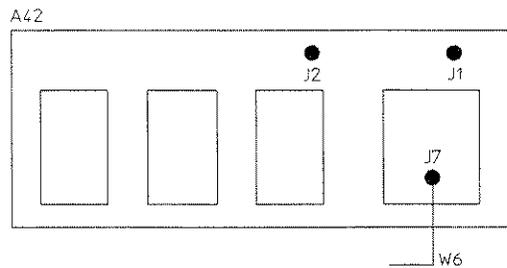

Figure 4-3. A42 Component Location
10. In Figure 4-3, A42 is shown as viewed from the front left of the pattern generator.